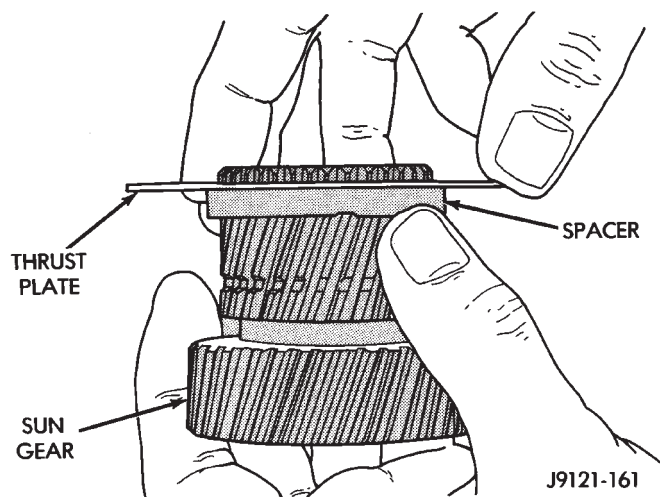

Fig. 232 Installing Driving Shell Front Thrust Plate On Sun Gear
(8) Install thrust plate on sun gear (Fig. 232). Note that driving shell thrust plates are interchangeable. Use either plate on sun gear and at front/rear of shell.